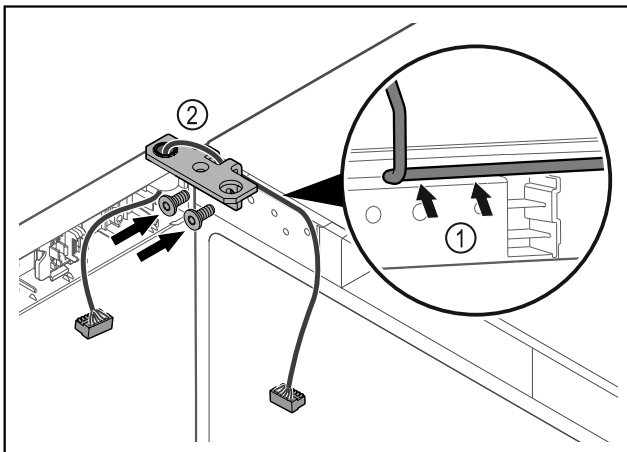

Fig. 45
- ▶ Feed the cable through the recess in the hinge and lay it carefully Fig. 45 (1).
- ▶ Screw on the hinge Fig. 45 (2).